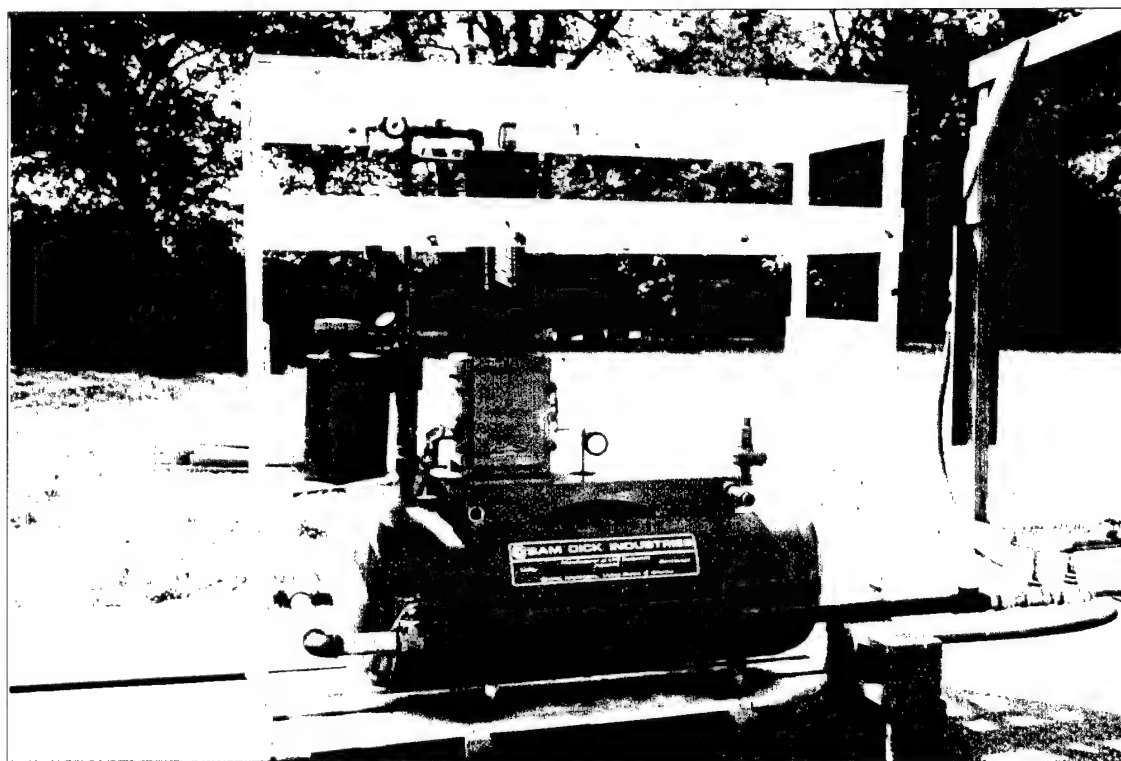

Figure 4-8. "Standby" air-propane mixing system.
4.1.2.1 Apparatus. The full size test was set up in the MFRI facility at the University of Maryland. The Sam Dick Industries XPV 2.5-15 model Standby LPG/air System used to mix the air and propane in approximately 50-50 by volume proportions is shown in Figure 4-8. When fuel of 100 percent propane was tested, the air intake on the device was closed with duct tape. When the air-propane mixture is withdrawn from the storage tank, the pressure inside the tank falls slightly, subsequently the device automatically resupplies more air-propane mixture. It is equipped with a complete set of safety devices.